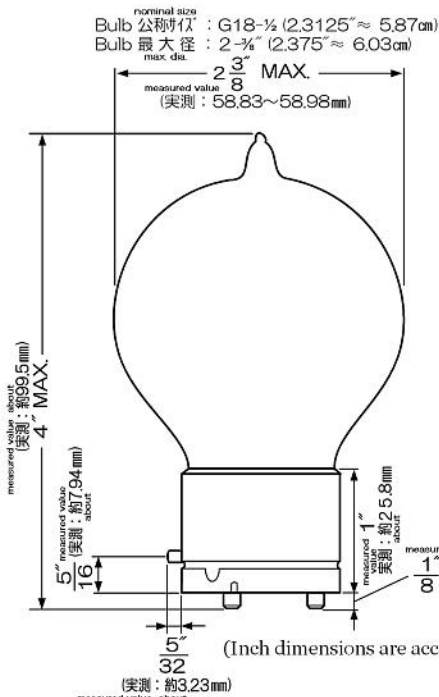

FIG. 1
**Dimensions**—Dimensions, outline diagrams of the tube and base, and the arrangement of the electrode connections to the base terminals are shown in Figures 1 through 4.